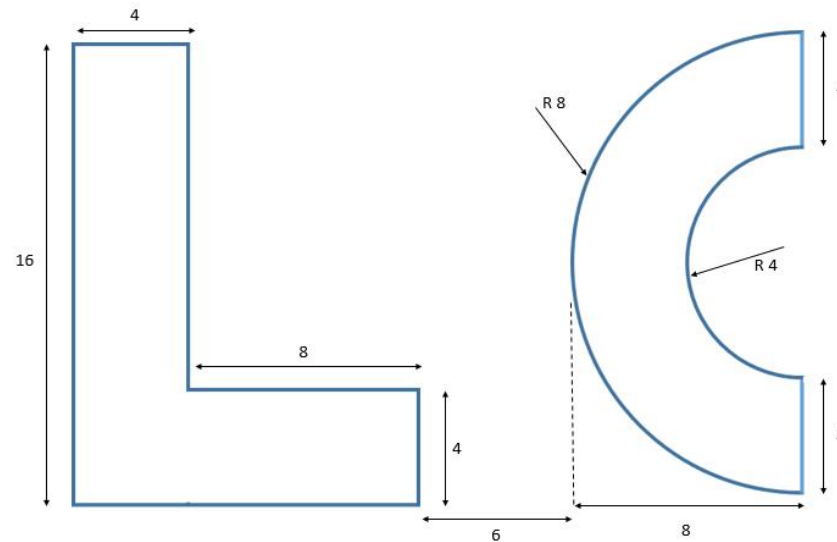

Figure 2. Welding profile
The welding profile is shown in figure 2. It consists of two shapes: "L" and "C". Here you have some requirements:
7) Provide the code in ABB Rapid programming language to generate the profile of figure 2. Use the next commands: *moveL*, *moveJ*, *moveC* and *offs*. Pay special attention to the velocity and the zone parameters of the move commands so that they fulfill the specifications of the welding profile given in the previous section. Use as template the code shown in Figure 3. Please notice the next: